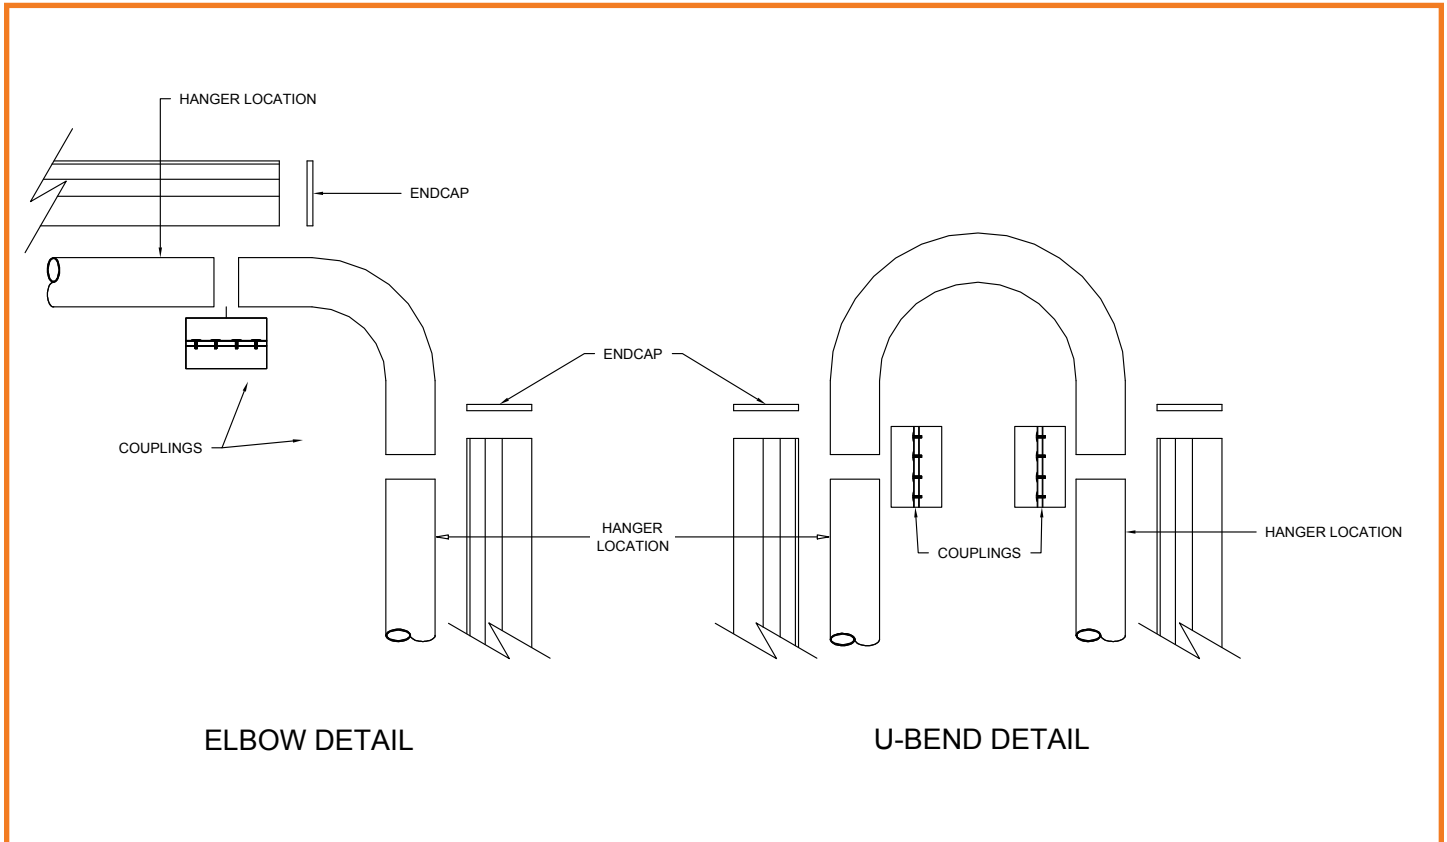

Figure 19: 90° Elbow and U-Bend Assembly Detail
- If required by the heater layout, install 90° elbows or U-bend tubes where indicated. Refer to Figure 19 for details.